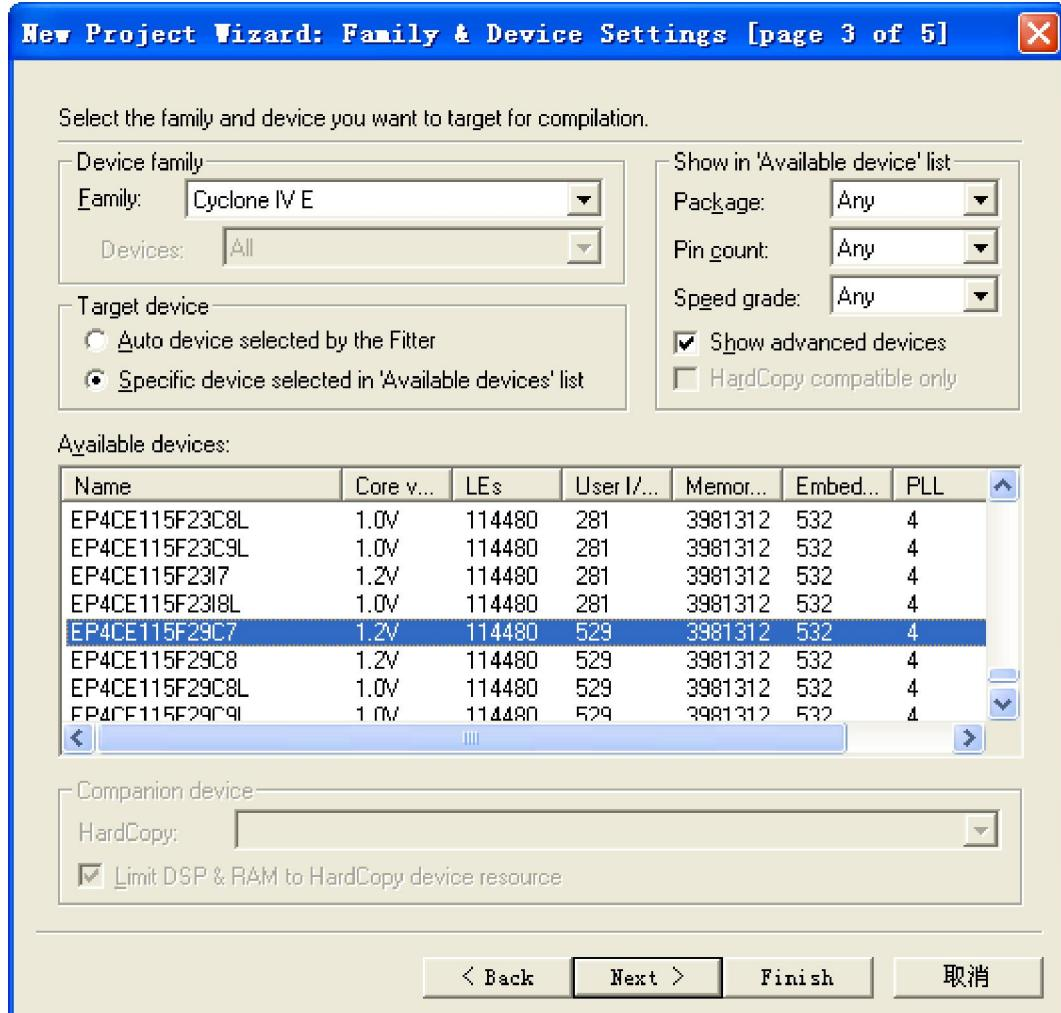
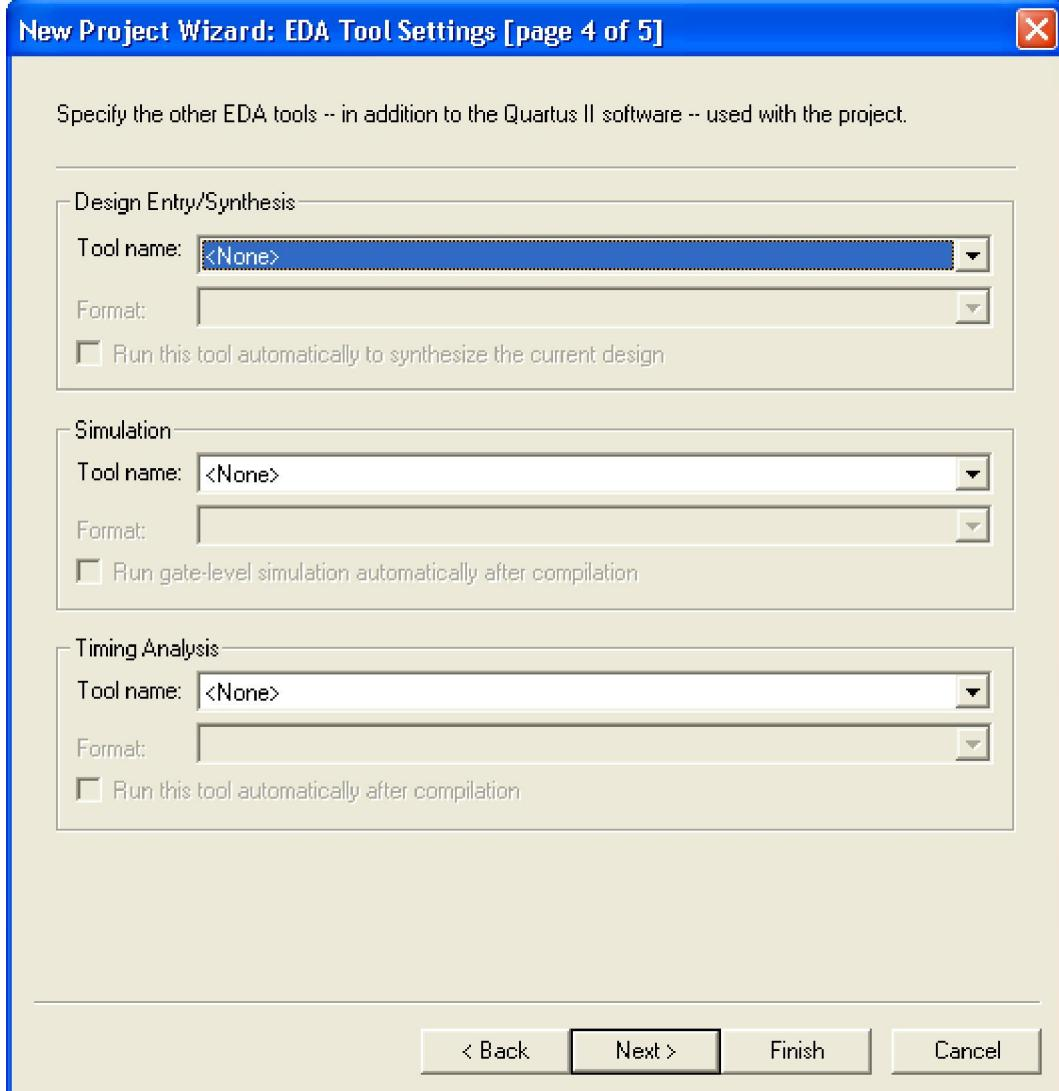

Figure 1-5 New Project Wizard: Family & Device Settings [page 3 of 5]
Figure 1-6 New Project Wizard: EDA Tool Settings [page 4 of 5]
3. Click **Next** to next window. We choose device family and device settings. You should choose settings the same as the **Figure 1-5**. Then click **Next** to next window as shown in **Figure 1-6**.